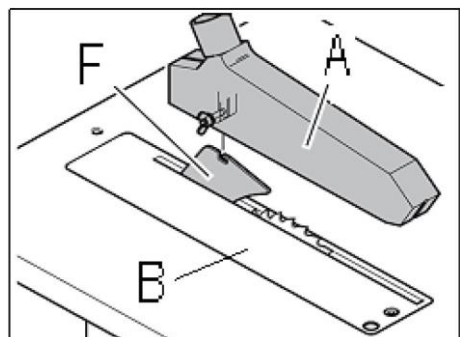

Fig. 26
Attach the saw guard (A, Fig 26) to the raving knife (F) with 1 carriage bolt, washer and wing nut.